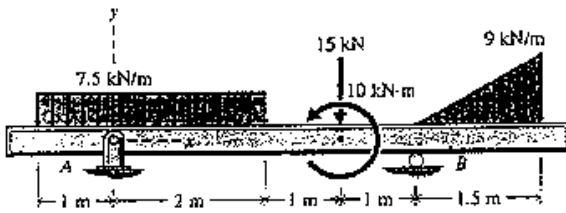

Fig. 2a
- (1) A hollow circular aluminum alloy ($G_a = 4000$ ksi) cylinder has a steel ($G_s = 11600$ ksi) core as shown in the figure. The steel and aluminum parts are securely connected at the ends. If the allowable stress in the steel must be limited to 14 ksi and the allowable stress in the aluminum must be limited to 10 ksi, determine
- (2) A beam is loaded and supported as shown in Fig. 2a. The beam has the cross section shown in Fig. 2b. Determine